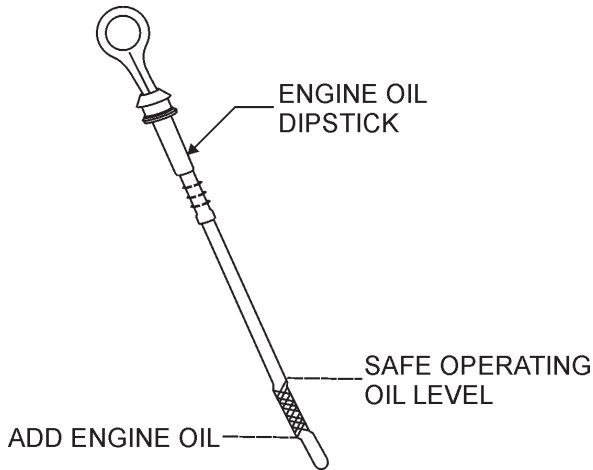

Figure 8. Engine Oil Dipstick
3. Verify that oil level (Figure 8) is maintained between the two notches on the dipstick.